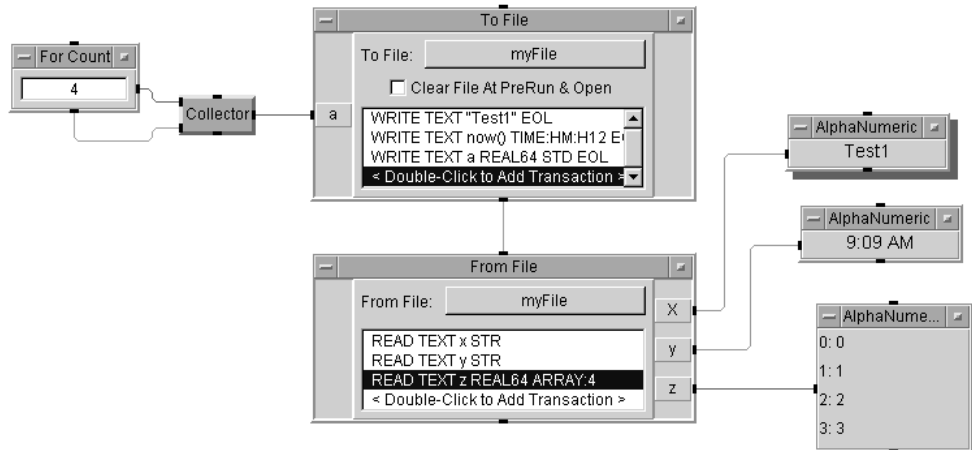

Figure 133 Retrieving Data Using the From File Object
- 8 Run the program. It should look like Figure 133.